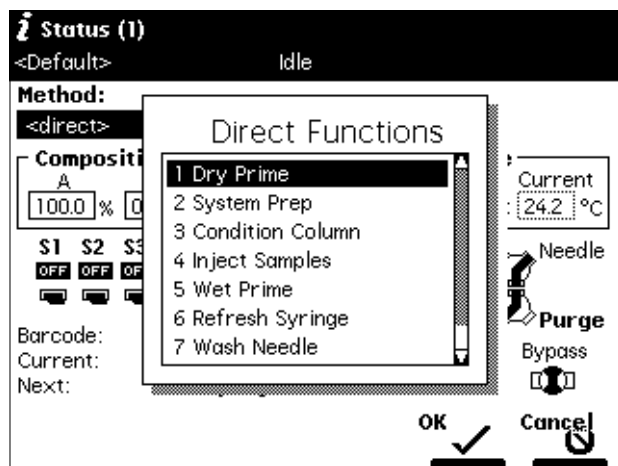

Figure 4-4 Direct Functions Menu
3. Press the **Direct Function** screen key. A list of direct functions appears (Figure 4-4). Table 4-1 describes the direct functions.
6. Press the **Direct Function** screen key on the Status screen. The Direct Functions menu appears (Figure 4-4).
3. Press the **Direct Function** screen key. The Direct Functions menu appears (Figure 4-4).
4. Press the **Direct Function** screen key. The Direct Functions menu appears (see Figure 4-4).